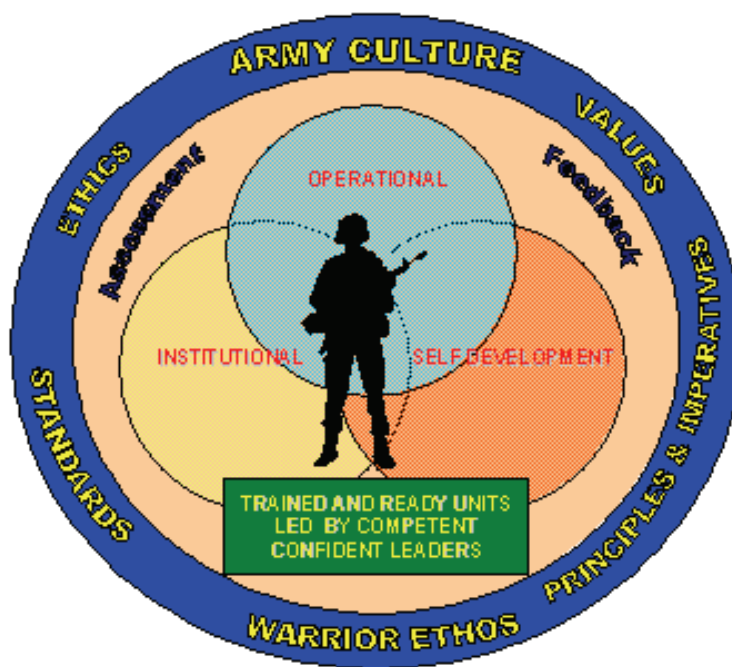

Figure 1-1. Army Training and Leader Development Model
(1) Training is a team effort and the entire Army — Department of the Army, major Army commands (MACOMs), the institutional training base, units, the combat training centers (CTCs), each individual Soldier, and the civilian workforce — has a role that contributes to force readiness. Department of the Army and MACOMs are responsible for resourcing the Army to train. The institutional Army, including schools, training centers, and NCO academies, for example, train Soldiers and leaders to take their place in units in the Army by teaching the doctrine and tactics, techniques, and procedures (TTP). Units, leaders, and individuals train to standard on their assigned critical individual tasks. The unit trains first as an organic unit and then as an integrated component of a team. Before the unit can be trained to function as a team, each Soldier must be trained to perform their individual supporting tasks to standard. Operational deployments and major training opportunities, such as major training exercises, CTCs, and collective evaluations provide rigorous, realistic, and stressful training and operational experience under actual or simulated combat and operational conditions to enhance unit readiness and produce bold, innovative leaders. The result of this Army-wide team effort is a training and leader development system that is unrivaled in the world. Effective training produces the force — Soldiers, leaders, and units — that can successfully execute any assigned mission.
(2) The Army Training and Leader Development Model (Figure 1-1) centers on developing trained and ready units led by competent and confident leaders. The model depicts an important dynamic that creates a lifelong learning process. The three core domains that shape the critical learning experiences throughout a Soldier's and leader's time span are the operational, institutional, and self-development domains. Together, these domains interact using feedback and assessment from various sources and methods to maximize warfighting readiness. Each domain has specific, measurable actions that must occur to develop our leaders.